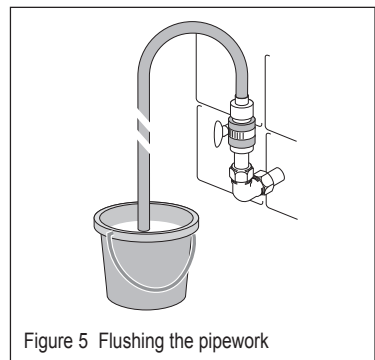

Figure 5 Flushing the pipework
- 3.17 Before making the final water connections to the shower heater, the pipe-work **MUST BE FLUSHED THOROUGHLY** to remove brick dust, swarf etc. which could severely damage the shower itself - see Fig. 5.
- 5.15 It is essential to flush the pipe in order to clear debris, particles or solder and swarf prior to connecting to the shower - see Fig. 5.**